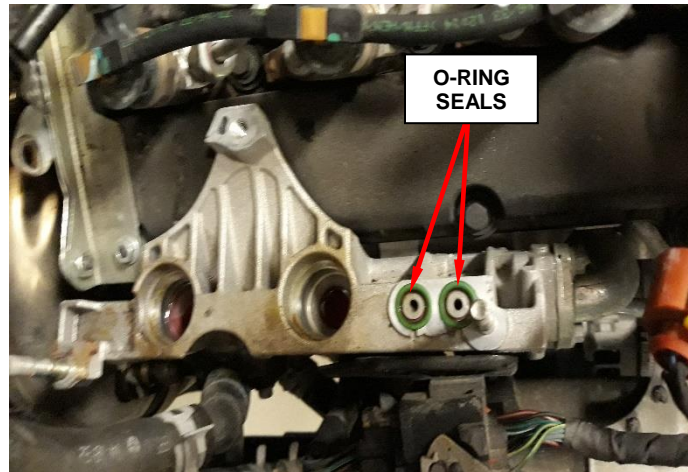

Figure 42 – O-rings
18. Remove and **DISCARD** the O-ring seals (Figure 42).
20. Install **NEW** O-ring seals onto the EGR cooler and mounting bracket (Figure 42).